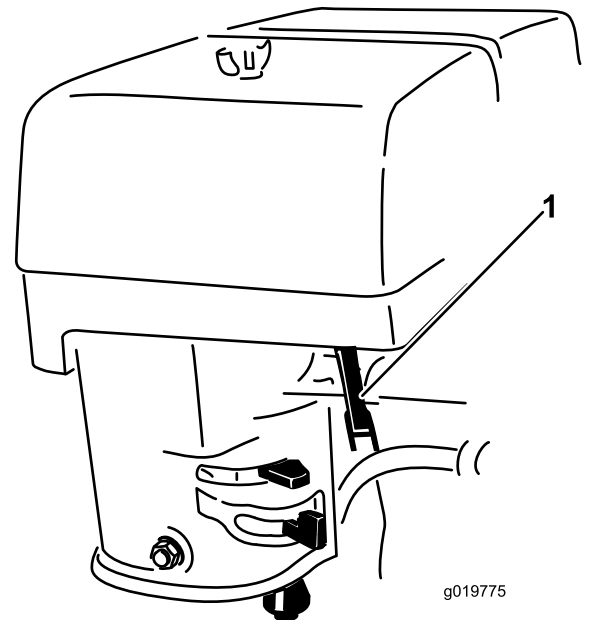

Figure 15
4. Move the throttle lever midway between the SLOW (turtle) and FAST (rabbit) positions (Figure 15).